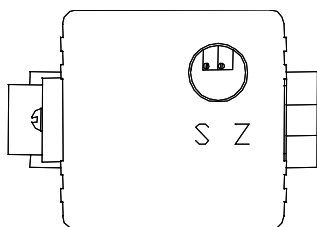

Figure 1
4. Locate the plastic calibration access cap on top of the QBX valve and completely remove it. Located underneath are two adjustment trim pots, Zero "Z" and Span "S". See figure 1 for pots location.